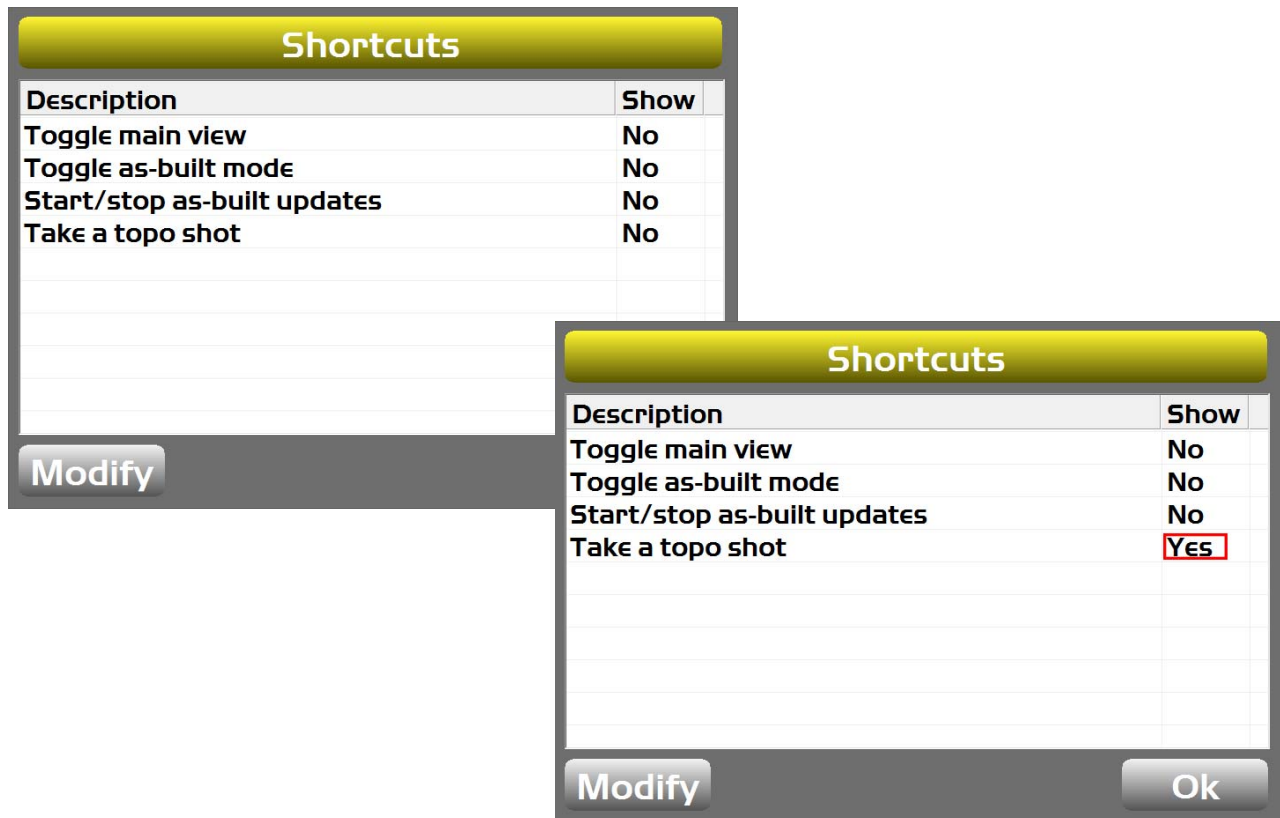

Figure 83: Activate the Topo Shortcut Button
1. Press the Power button on the display, then tap **View ▶ Display options ▶ Shortcuts**. The **Shortcuts** screen appears (Figure 83).
2. Select **Take a topo shot** from the **Description** column, and tap **Modify**. The **Show** column will change to **Yes**, indicating that the topo shot function is active (Figure 83).